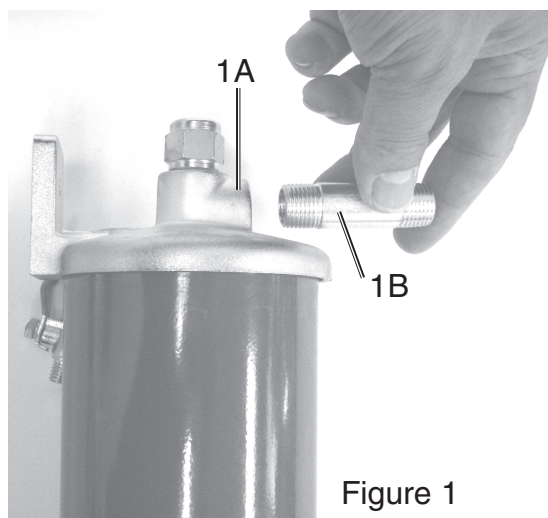

Figure 1
1. Remove the contents in the small plastic bag and locate Nipple (1B). Thread the Nipple (1B) into the Plug (1A). You should use teflon tape or pipe dope (not included) on all threaded connections. See Figure 1 below.